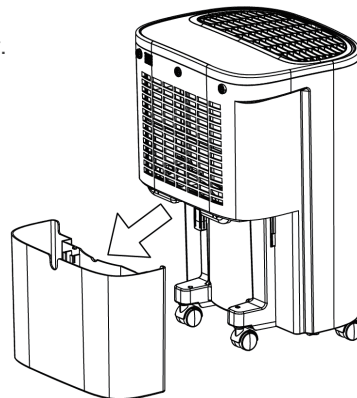

Fig 01
- (1) Take out the water tank (as Fig 01) and pour out the water.
- (2) Put the water tank back.